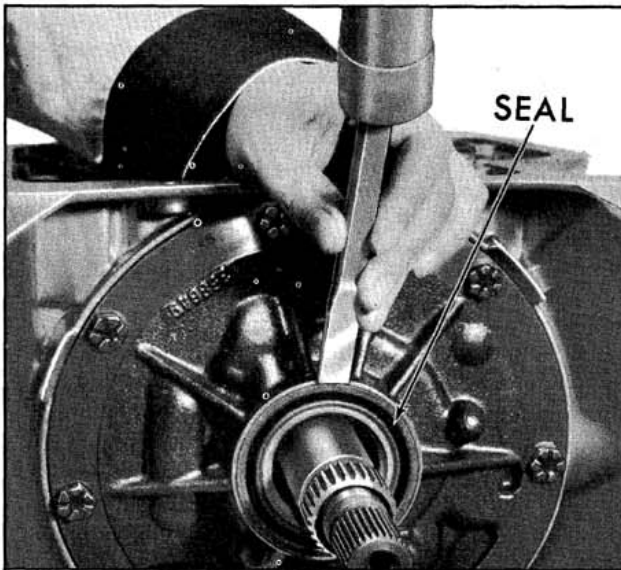

Fig. 6-55 Removing Front Seal
1. If necessary to replace, pry front seal from pump. (Fig. 6-55)